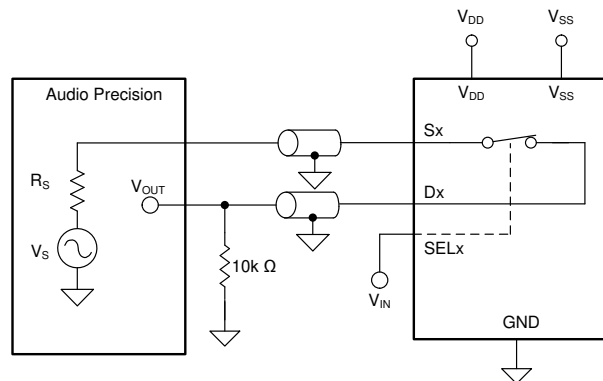

**图 8-9. Bandwidth Measurement Setup**
Bandwidth is defined as the range of frequencies that are attenuated by < 3 dB when the input is applied to the source pin (Sx) of an on-channel, and the output is measured at the drain pin (D) of the TMUX6121, TMUX6122, and TMUX6123. 图 8-9 shows the setup used to measure bandwidth of the switch. Use 方程式 4 to compute the attenuation.